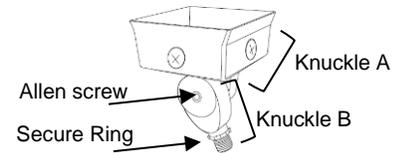

Figure 4
- Before beginning the installation instructions (on page 2), using allen wrench remove screw at the knuckle to separate the 2 pieces (See Fig. 4: Knuckle A and Knuckle B). (Make sure to save the inside gasket aside).
- Remove secure ring (See Fig. 4) from 1/2" screw on knuckle B and insert knuckle B into 1/2" NPT hole in electrical box then tighten secure ring.